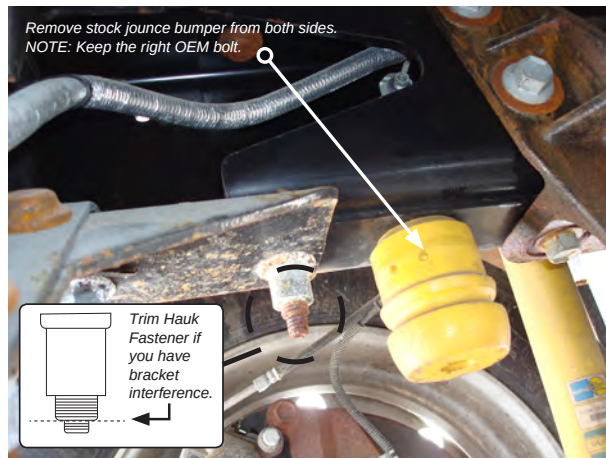

fig. 5
1. Before the assemblies can be installed, it will be necessary to remove the jounce bumpers from under the frame (fig. 5). Note: do not discard the right OEM bolt; it will be used in the next step on the right side of the vehicle.
If there is no hole in the frame for the upper bracket, position the lower bracket so that the back leg on the bracket is in between the shock mount and u-bolt (fig. 8). Align the upper bracket so the bellows is perpendicular between the upper and lower bracket. Note: make sure that the flange on the upper bracket is setting against the frame. Some late models may have longer Hawk fasteners. If the fastener hits on the upper bracket and keeps its form contacting the frame (figs. 5 and 9) hack saw or grind the end of the fastener just enough so that the upper bracket contacts the frame. Using the center of the slot in the upper bracket as a guide, center punch and drill a 1/2" hole through the frame. Repeat for the other side.